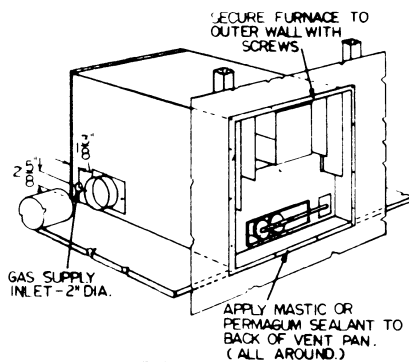

FIGURE 3
5. Attach side duct connectors to furnace casing with screws that are provided. Slide ducts over connectors and seal with duct tape. See Figure 3.
1. Route gas supply line through opening on right side of furnace or through bottom of casing. See Fig 3.